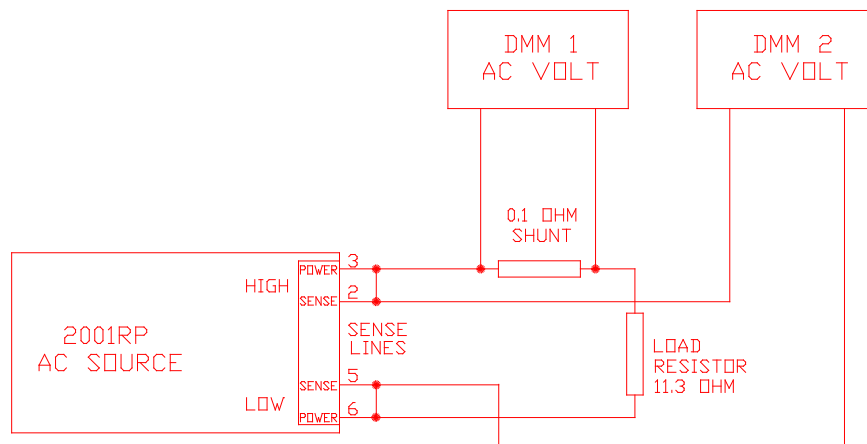

Figure 6-2: Test Equipment Hook-up for Current and Power Measurement Calibration
1. Connect the test equipment to the power source as shown in Figure 6-2. **Do not** connect any load during this step. Voltage calibration must be done under no load conditions.
1. Connect the test equipment to the power source as shown in Figure 6-2.
1. Connect the test equipment as shown in Figure 6-2. Use the 11.3 ohm load.